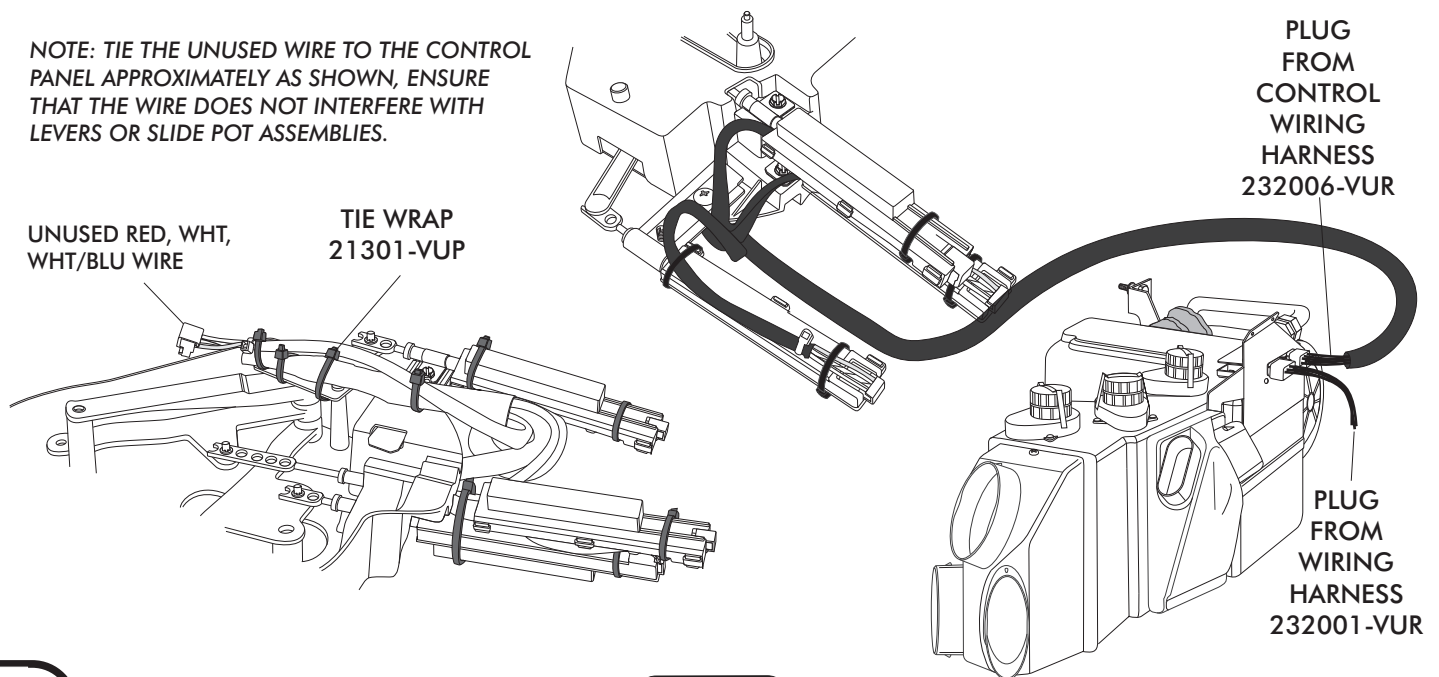

FIGURE 8
- USING THE SUPPLIED TIE-WRAPS, TIE THE WIRES AND THE UNUSED WIRE TO THE CONTROL PANEL AS SHOWN IN FIGURE 8 BELOW. CONFIRM THAT WIRES ARE SECURE AND DO NOT INTERFERE WITH LEVER OPERATION OR SLIDE POT ASSEMBLY.
- PLUG THE WIRING HARNESS INTO THE ECU MODULE ON SUB CASE. SEE FIGURE 8 BELOW.